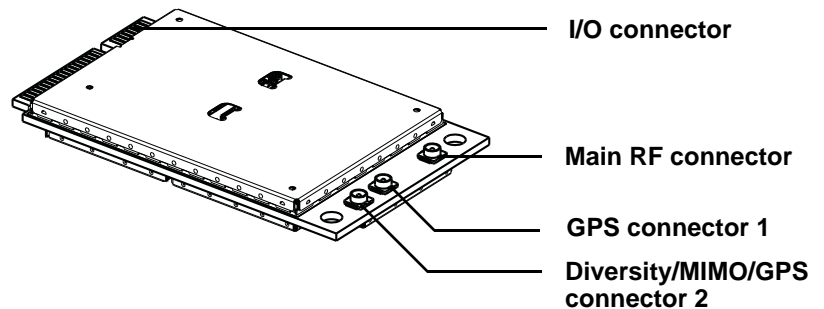

Figure 5-1: Module connectors
- Use Hirose U.FL connectors (3 mm x 3 mm, low profile; model U.FL #CL331-0471-0-10) to attach antennas to connection points on the module, as shown in Figure 5-1 on page 39.
- Connect to system ground using the two mounting holes at the top of the module (shown in Figure 5-1 on page 39).